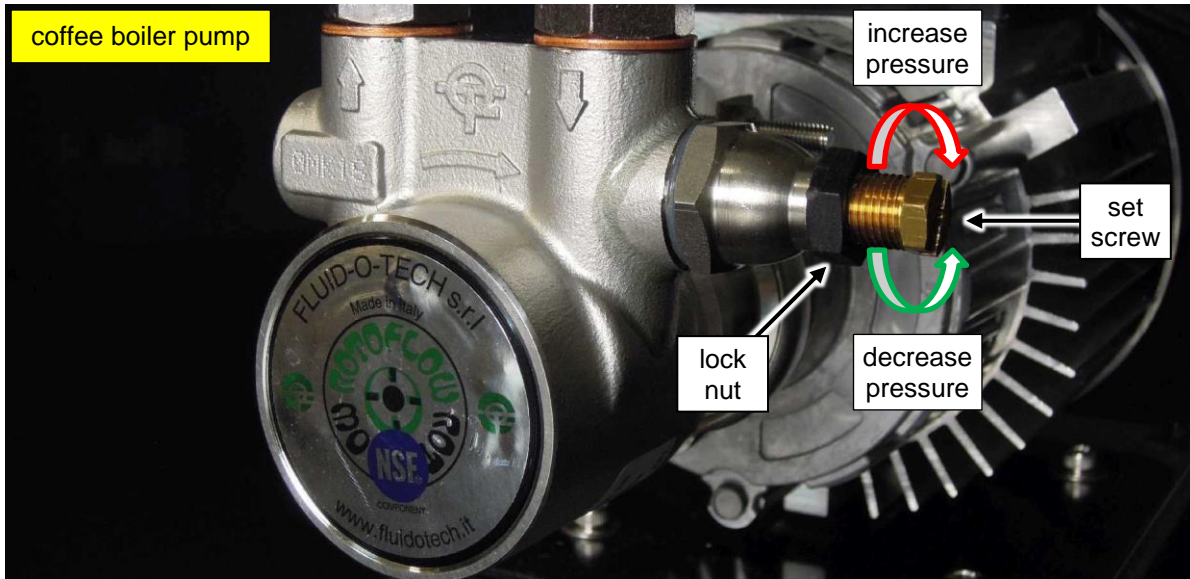

Figure 21. Showing the lock nut and set screw on the pump to change pump pressure.
The pressure at the outgoing side of the pump depends somewhat on the pressure at the ingoing side of the pump. Therefore, you should check and possibly adjust the pump pressure after installation. Adjustments are made by turning the set screw on the right hand side of the pump housing (see Figure 21).
5. To increase the pump pressure turn the set screw in the pump housing clockwise (see Figure 21). Turn the screw counter-clockwise to decrease the pump pressure.